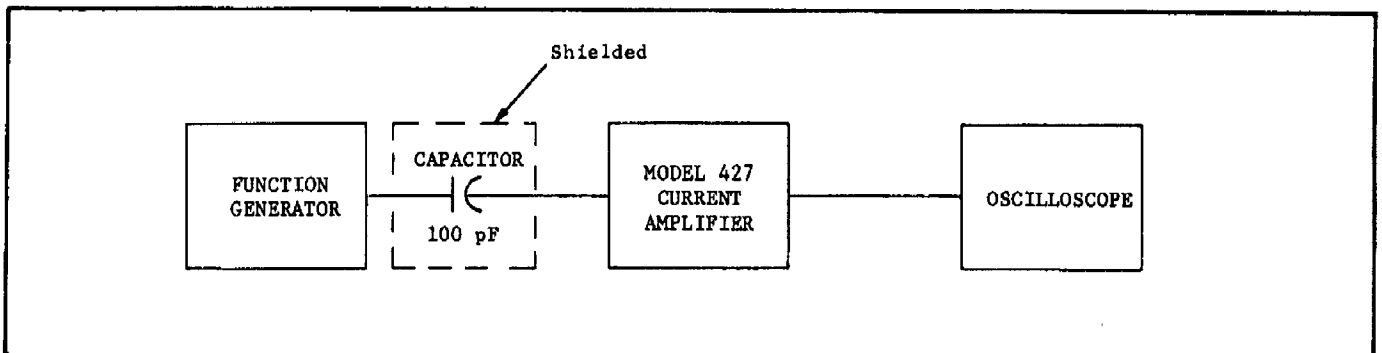

FIGURE 24. Measurement of Rise Time.
a). Connect Function Generator to the Model 427 input and connect the Model 427 rear panel output to the Oscilloscope using the test set up shown in Figure 24.